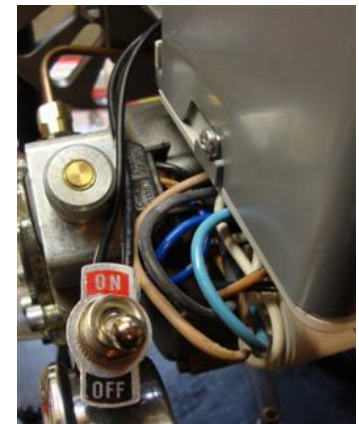

Figure 1-17
3. To start the motor and energize the oil valve only the following method may be used; replace the cad-cell with our #111 Deviator Switch, **Figure 1-17**.